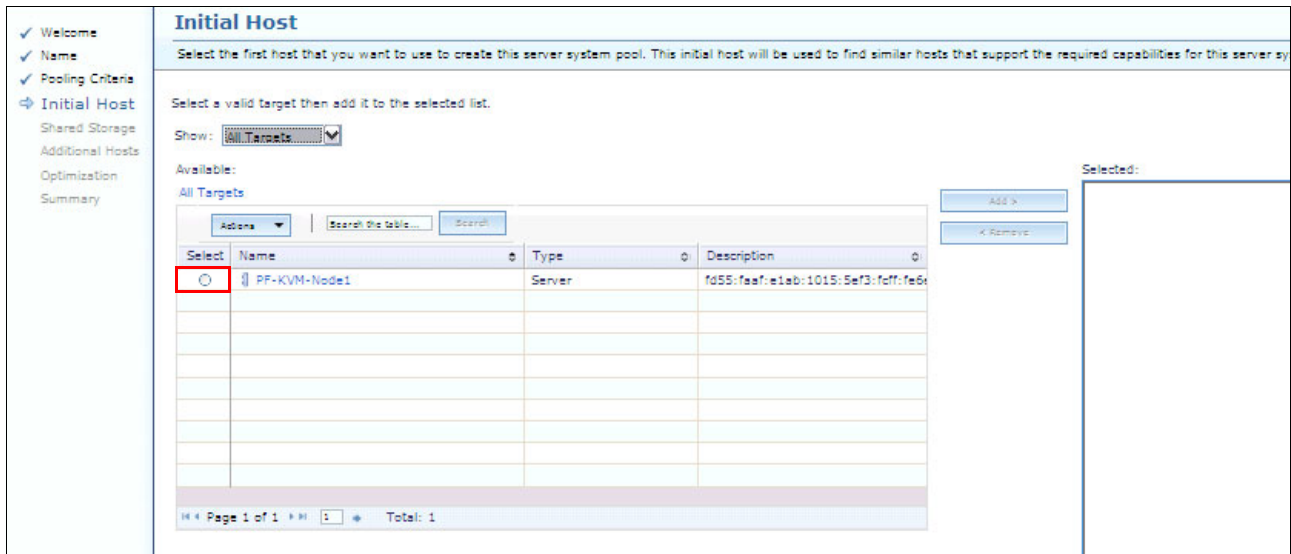

Figure 9-97 Initial server system pool host
6. Select a host as the initial host to initiate the creation of the server system pool as shown in Figure 9-97, then click **Next**.